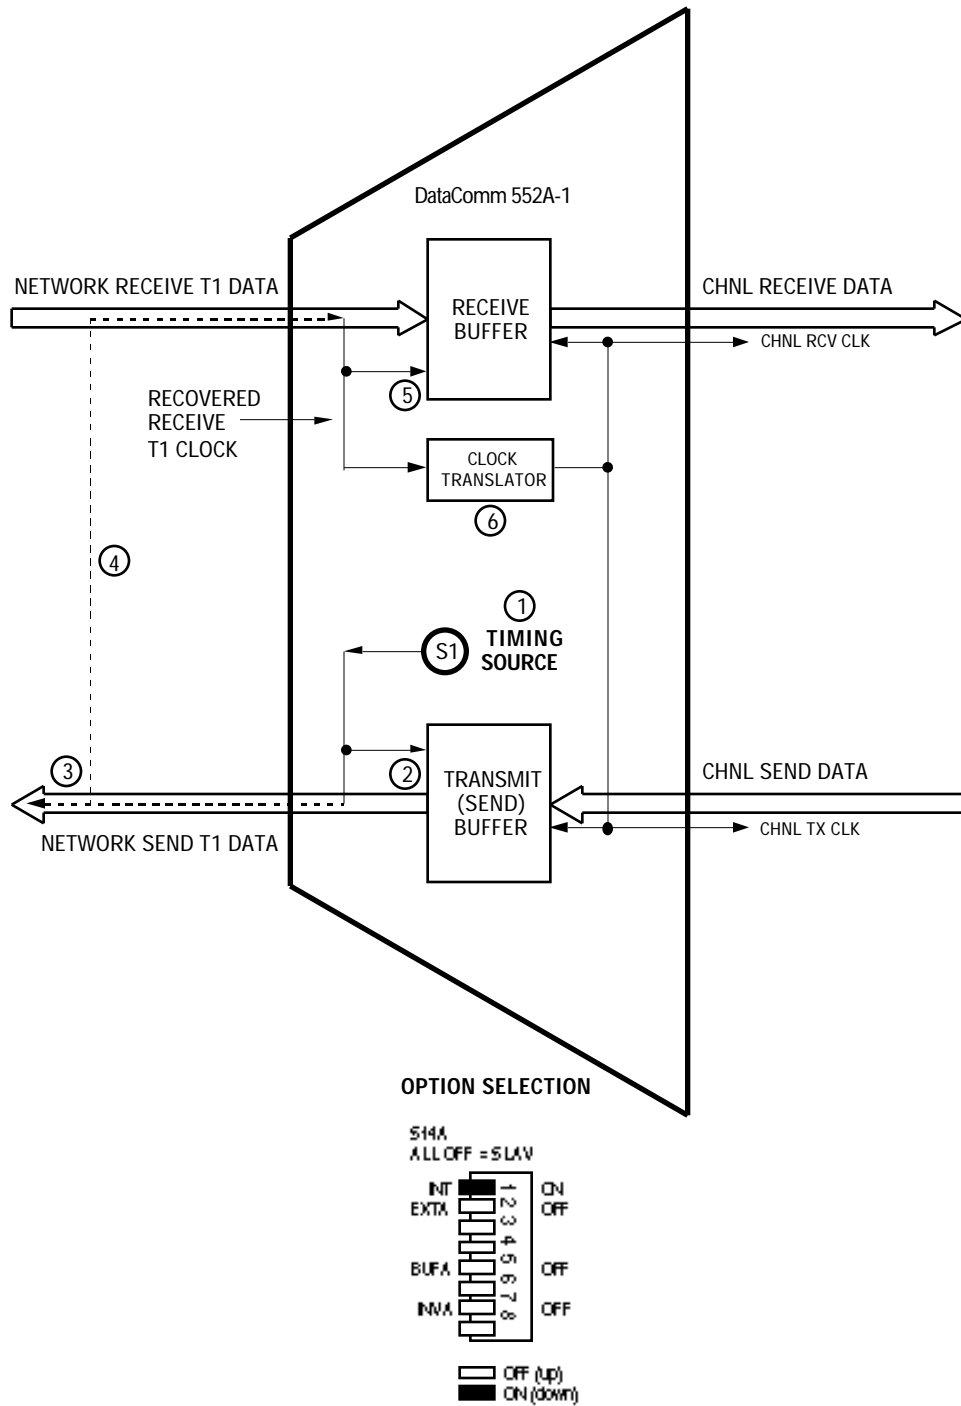

FIGURE B-2. INTERNAL TIMING
With Internal Timing, illustrated in Figure B-2, the DSU provides the send timing source (1) for T1 data output from the transmit buffer (2) to the network. (This clock satisfies the requirements of a Stratum 4, Type II clock, as defined in PUB 62411.) The remote DSU uses this as its timing reference (3) and loops it back to the DSU (4). The DSU recovers the receive T1 clock from the network receive T1 data and uses it to clock T1 data into the receive buffer (5). The DSU also translates (6) the receive T1 clock to provide the channel transmit and receive clock signals on the appropriate interface leads for the channel.